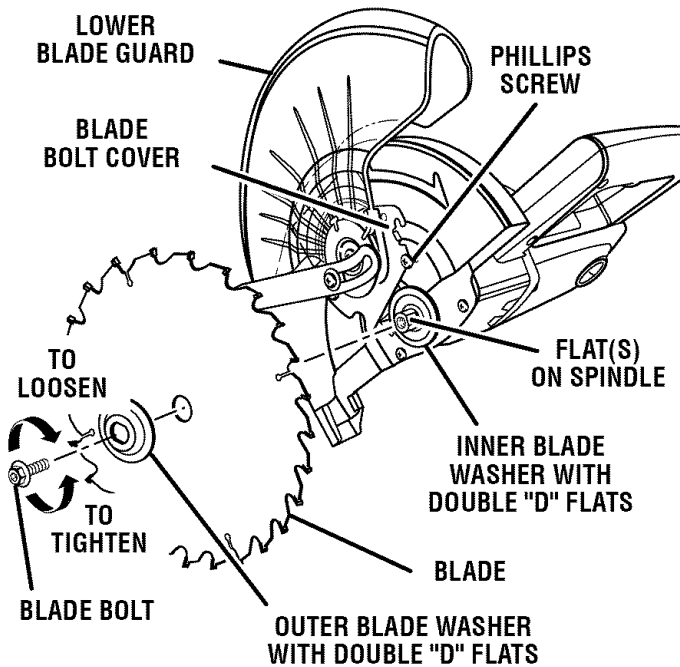

Fig. 13
- Depress the spindle lock button and rotate the blade bolt until the spindle locks. See Figure 13.
- Fit saw blade inside lower blade guard and onto spindle. The blade teeth point downward at the front of saw as shown in figure 13.
- Retighten phillips screw securing blade bolt cover. Tighten screw securely. See Figure 13.